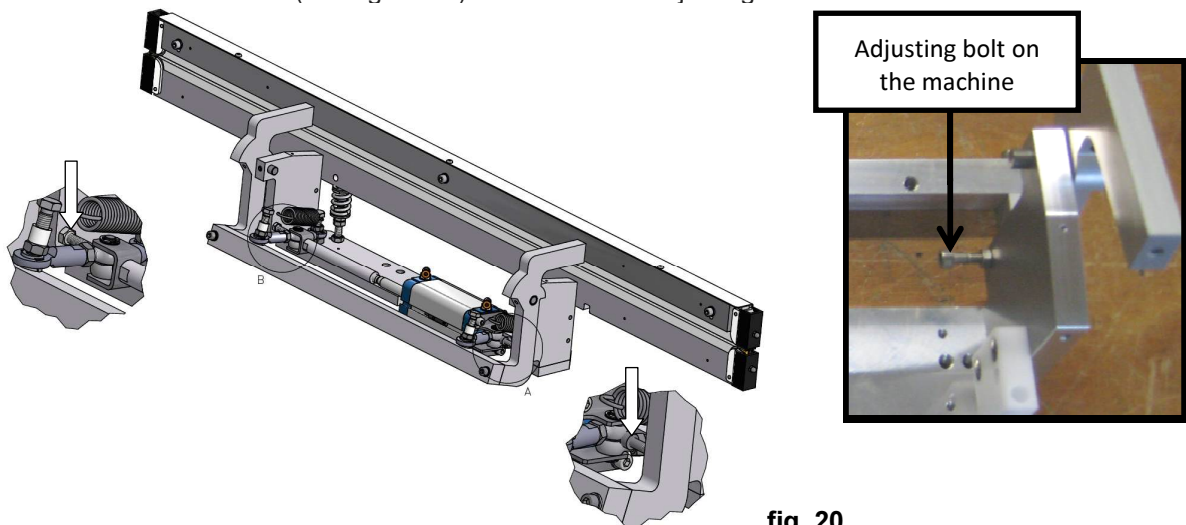

fig. 20
- fig. 20 Close the fuse compartment.
- Adjust the spring height (pressed) by screwing or unscrewing the bolt on the left side and right side of the machine (see figure 20). Then lock the adjusting bolt with the nut.